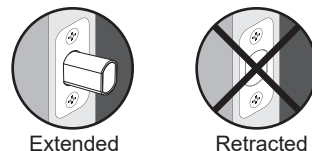

Fig. 7
**⚠ It's highly recommended to leave the door open during installation. And always keep the bolt extended throughout the installation (Fig. 7).**
**⚠ Always keep the bolt extended and the thumb turn vertical throughout the installation (Figs. 7 & 8).**